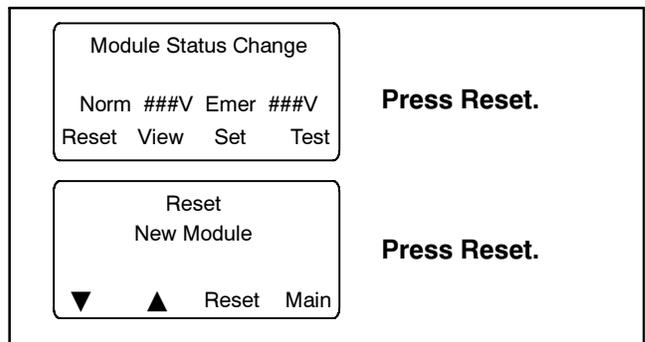

Figure 26 Screens after Module Connection
- Check the ATS display for the Module Status Change message. See Figure 26. Press the Reset button to display Reset New Module. Press the Reset button from that screen. The controller automatically recognizes the module type(s).